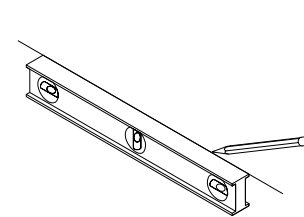

Fig. 1
1. Decide on the desired height for your shelf, then use a level to mark a straight line (Fig 1).